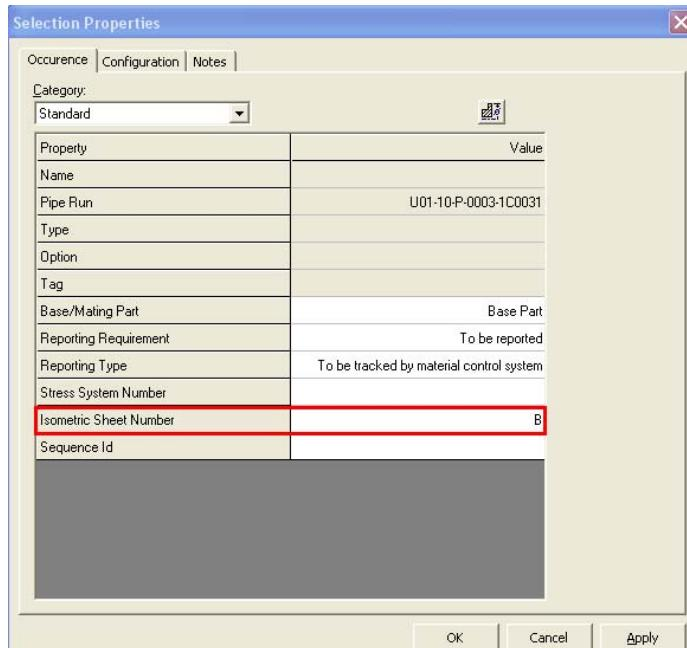

Figure 31: Selection Properties Dialog Box
33. Right-click the selected pipe parts and open the **Selection Properties** dialog box to assign them to another isometric sheet number **B** for creating an isometric drawing. Key in **B** in the **Isometric Sheet Number** box in the **Selection Properties** dialog box, as shown in Figure 31, and click **OK**.